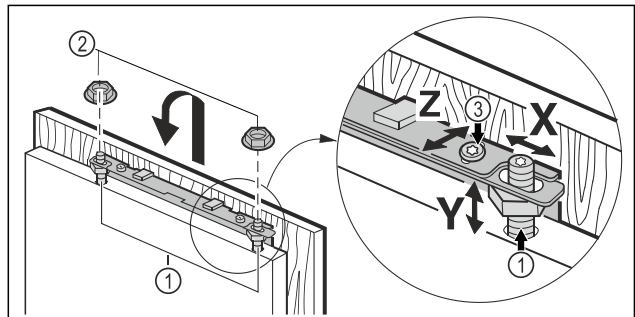

Fig. 21
- Hook the unit door onto the adjustment bolts Fig. 21 (1) and screw the lock nuts Fig. 21 (2) loosely onto the adjustment bolts.
- Align the unit door in height Y and in the lateral inclination: Adjust the adjustment bolt Fig. 21 (1) with a screwdriver.
- Tighten the lock nuts Fig. 21 (3).